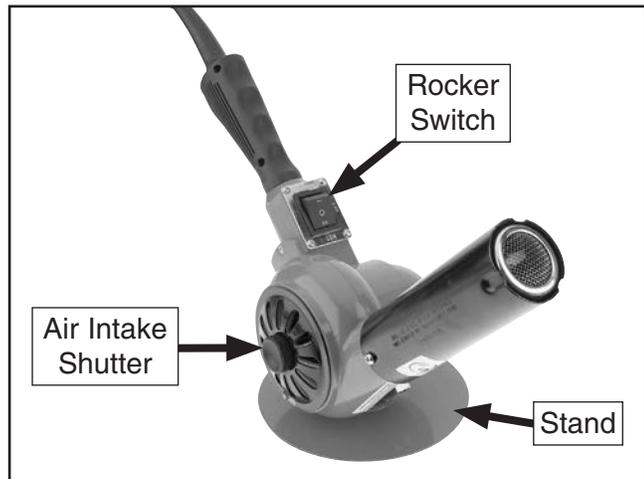

Figure 1. Model T10827 controls and major components.
1. Make sure rocker switch (see **Figure 1**) is set to OFF.
3. Adjust air intake shutter (see **Figure 1**) to desired position. Opening shutter provides slightly cooler air. Closing shutter provides the highest temperature.